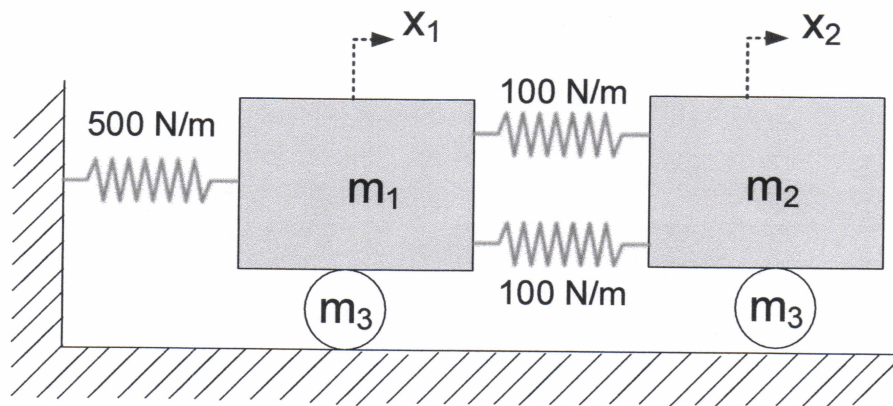

Figure Q3
**Q3** A machine is modelled by the system shown in **Figure Q3**. The masses of the main elements are  $m_1 = 5$  kg and  $m_2 = 10$  kg, and the spring stiffness are as shown. Each roller has a mass  $m_3 = 1$  kg, diameter = 10 cm, and mass moment of inertia  $J$  about its axis. Considering motion of the machine in the Longitudinal direction only and rollers roll without slipping, determine: